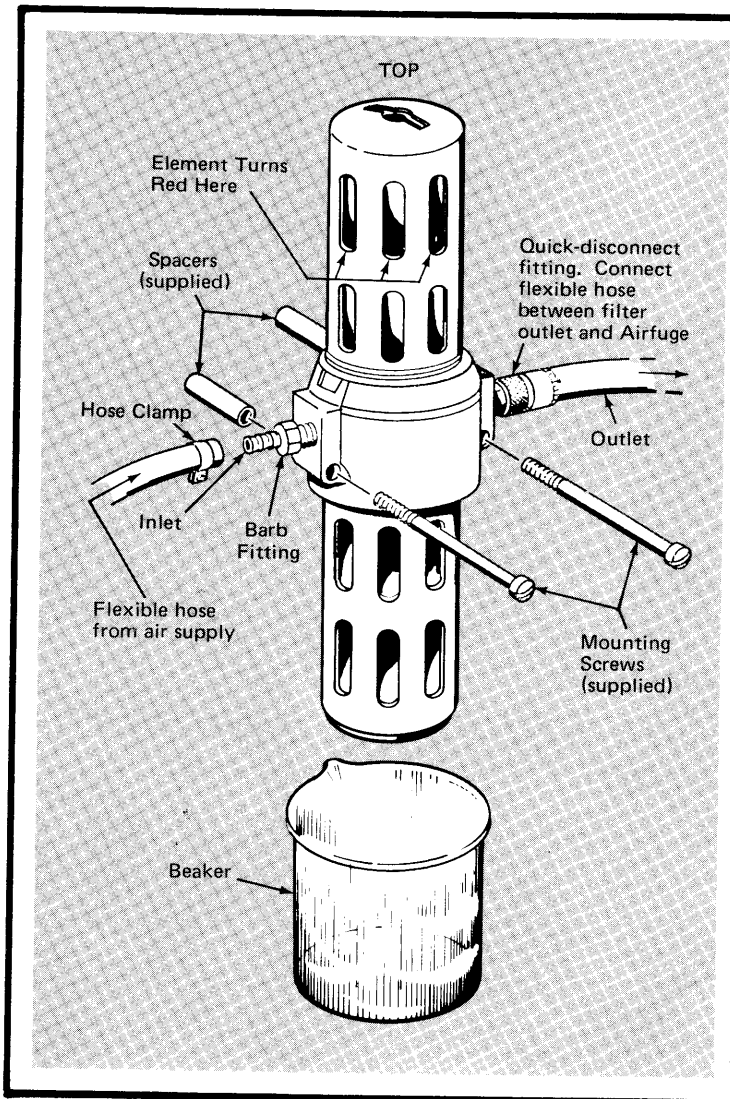

Figure 2-1. Wall-Mounted Filter
1. *Wall-Mounted*—Screw the filter rigidly to the wall in vertical position (top and bottom are marked), using the screws and spacers supplied—or other fasteners suitable for your wall material. Figure 2-1 shows mounting holes. Attach the flexible hose with quick-disconnects\* between the filter outlet and the Airfuge unit. Add hose clamps to the plain hose, then slip the ends of the plain hose over the barbs of the filter inlet and your air supply. Tighten clamps. *Place a beaker under the filter to collect small amounts of oil and water which will accumulate because of the self-purging action of the filter.*